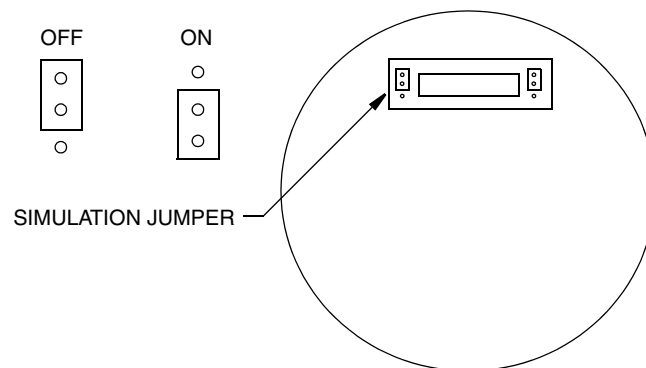

Figure 27. Simulation Jumper
3. To activate Simulation mode, move the simulation jumper to the lower position as shown in Figure 27.